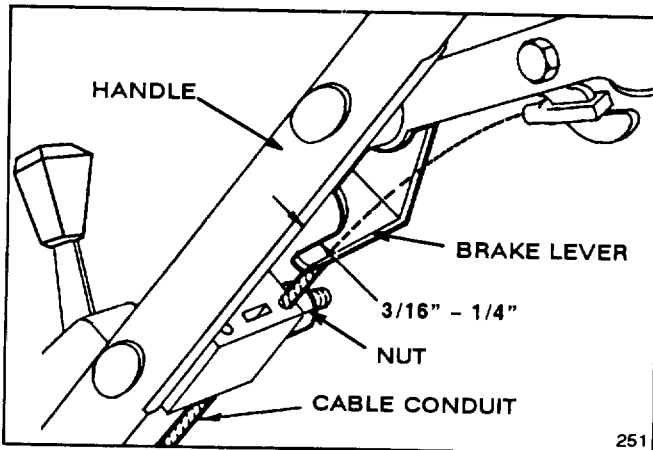

Figure 19
2. CHECK ADJUSTMENT (Fig. 19)—Move control bar toward handle until slack in wire is removed. Gap between brake lever and handle must be $3/16"$ – $1/4"$. See step 3 for adjustment.
3. ADJUST CABLE CONDUIT (Fig. 19)—Loosen nut on cable bracket. Insert $3/16"$ – $1/4"$ object between brake lever and handle. Pull down on cable conduit until all slack is removed from wire. Then tighten nut.